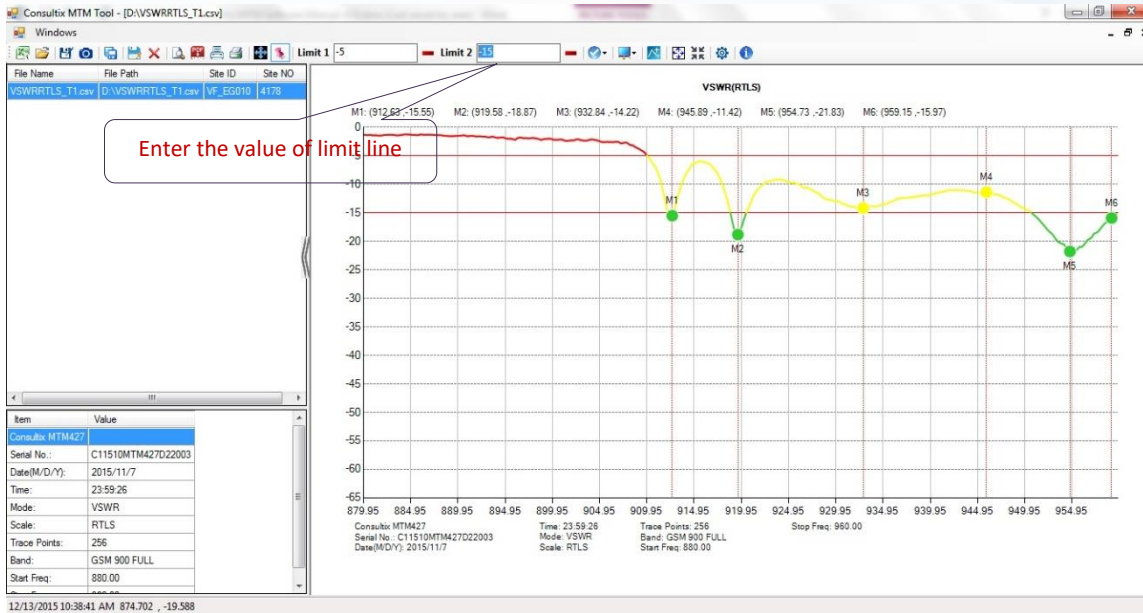

Figure 7, Adding Limit Lines
1. Add limit lines: from **Function Toolbar**, enter the limit line value in "**Limit 1**" textbox and/or "**Limit 2**" textbox then click enter as shown in figure 7